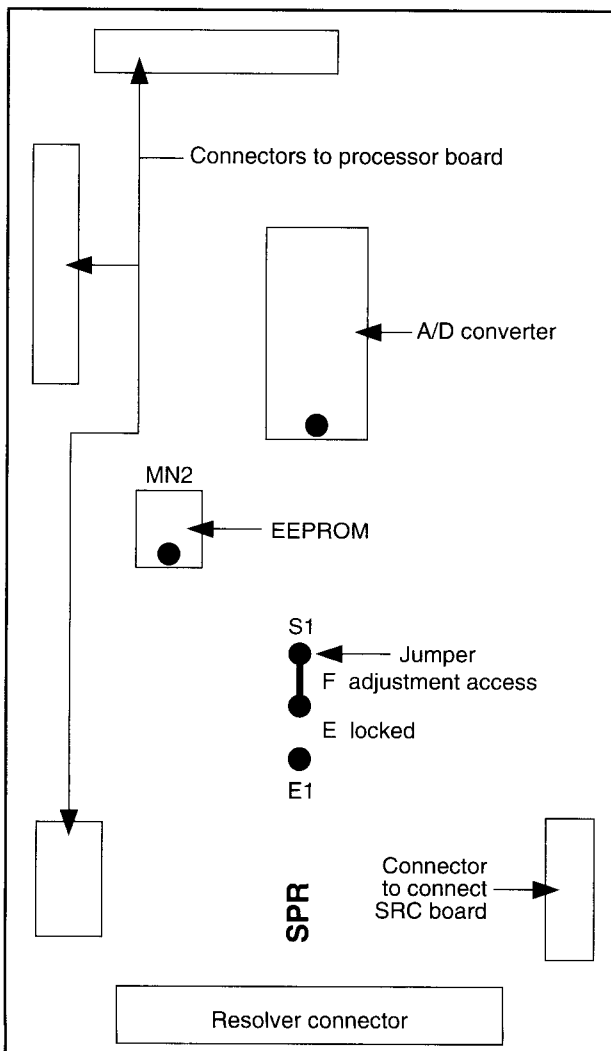

Figure 8 : resolver board
- 10 pin female connector on resolver board (Drawing of the board in fig. 8 page 16)